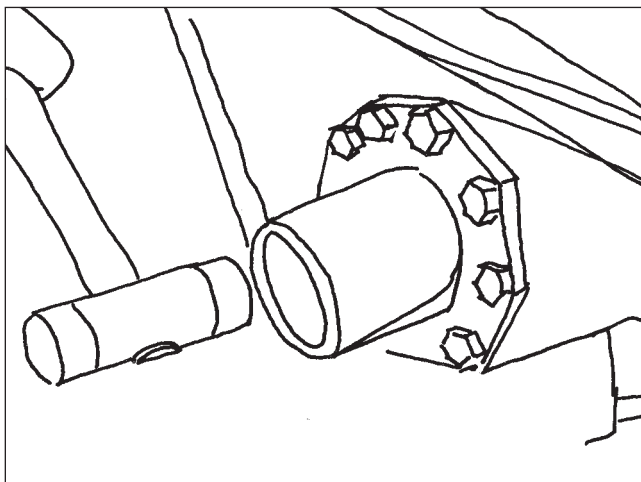

Figure 31
15. Use a 2 1/2" seal driver to install the dirt excluder in the sector shaft cover (Figure 31).